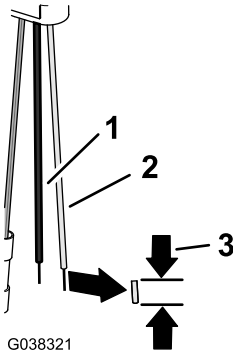

Figure 38
2. Strip 8 mm (5/16 inch) of insulation from the pink and black wires of the 4-pin adapter (Figure 38).